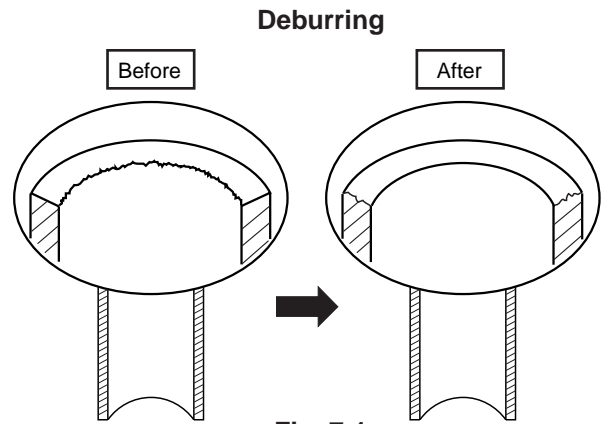

Fig. 7-1
- (1) Cut the copper tube to the required length with a tube cutter. It is recommended to cut about 12 – 20 in. longer than the estimated tubing length.
- (2) Remove burrs at the end of the copper tube with a tube reamer or file. This process is important and should be done carefully to make a good flare. (Fig. 7-1)